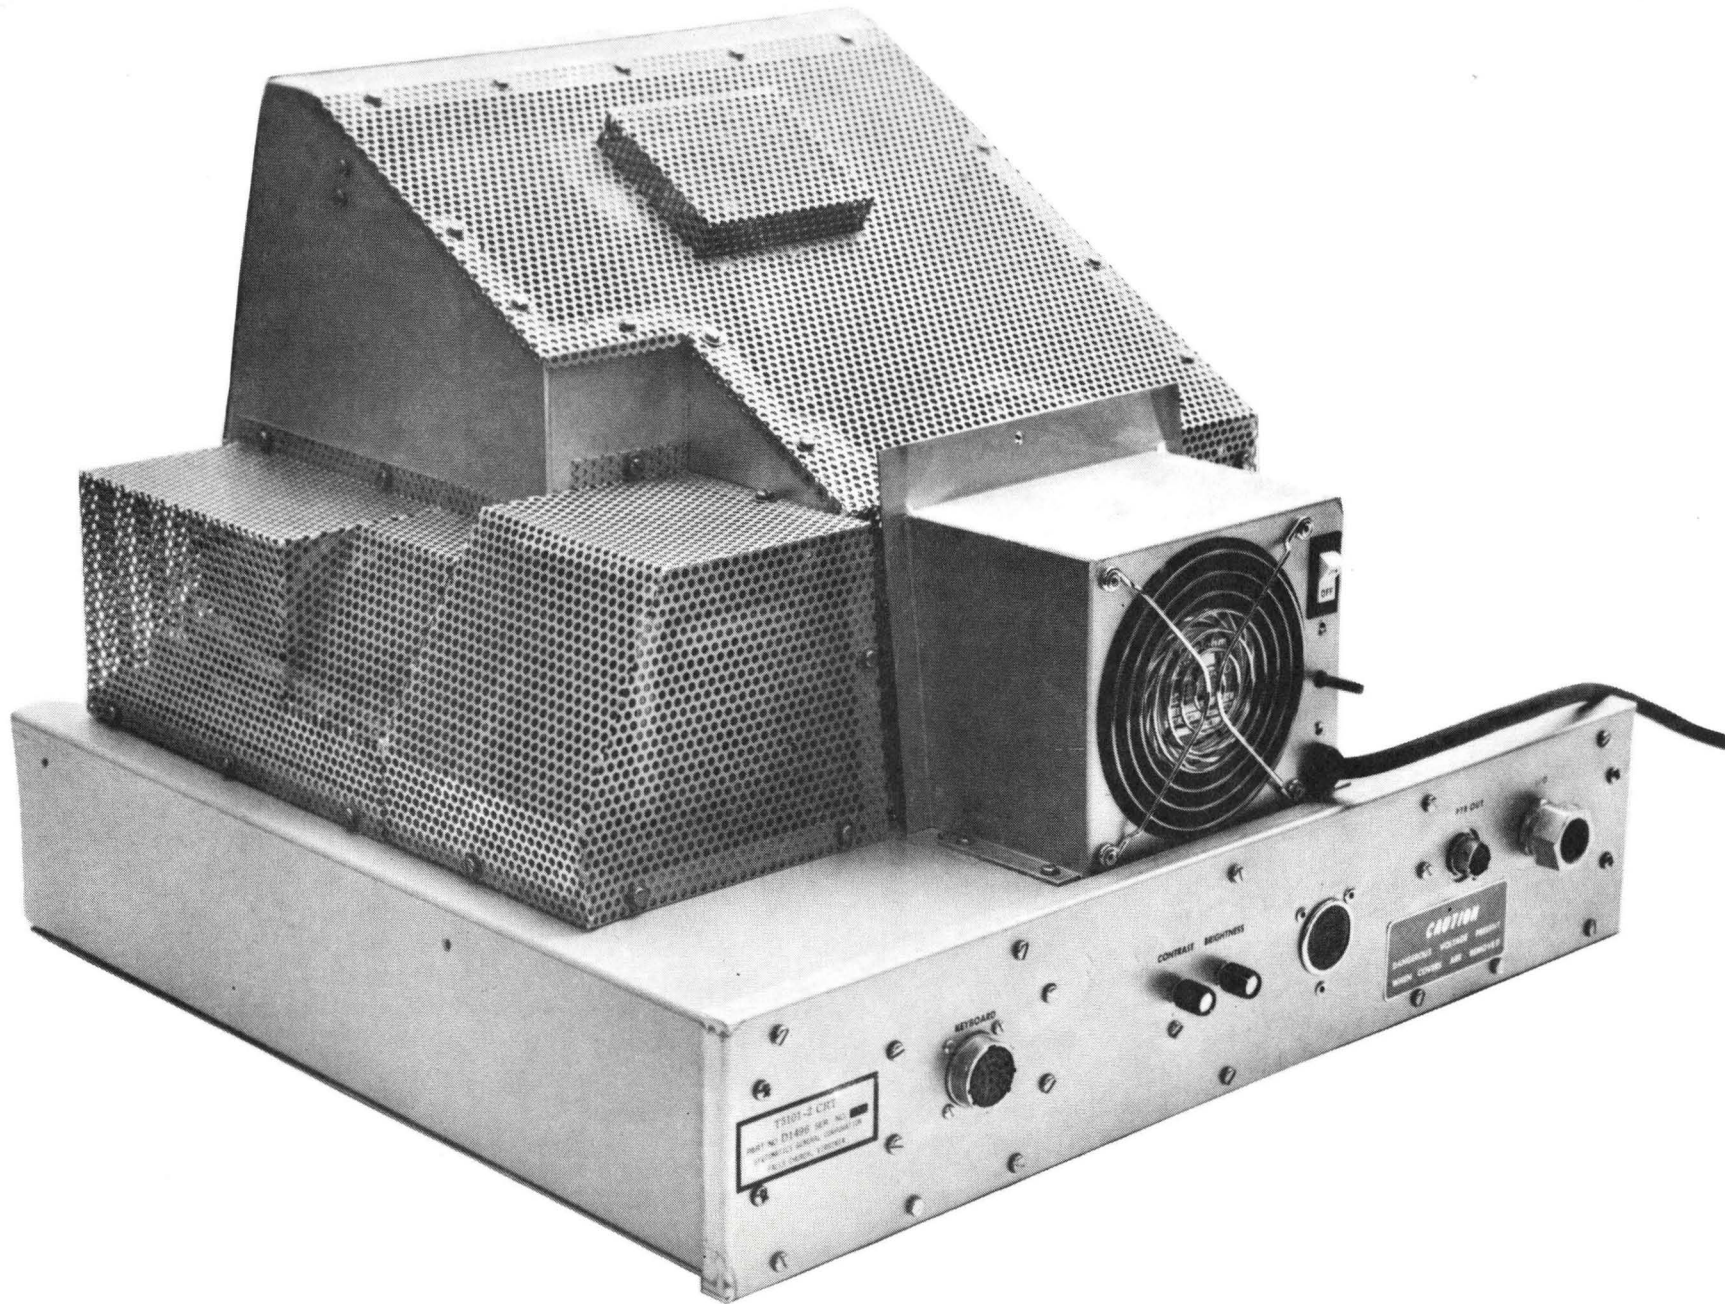
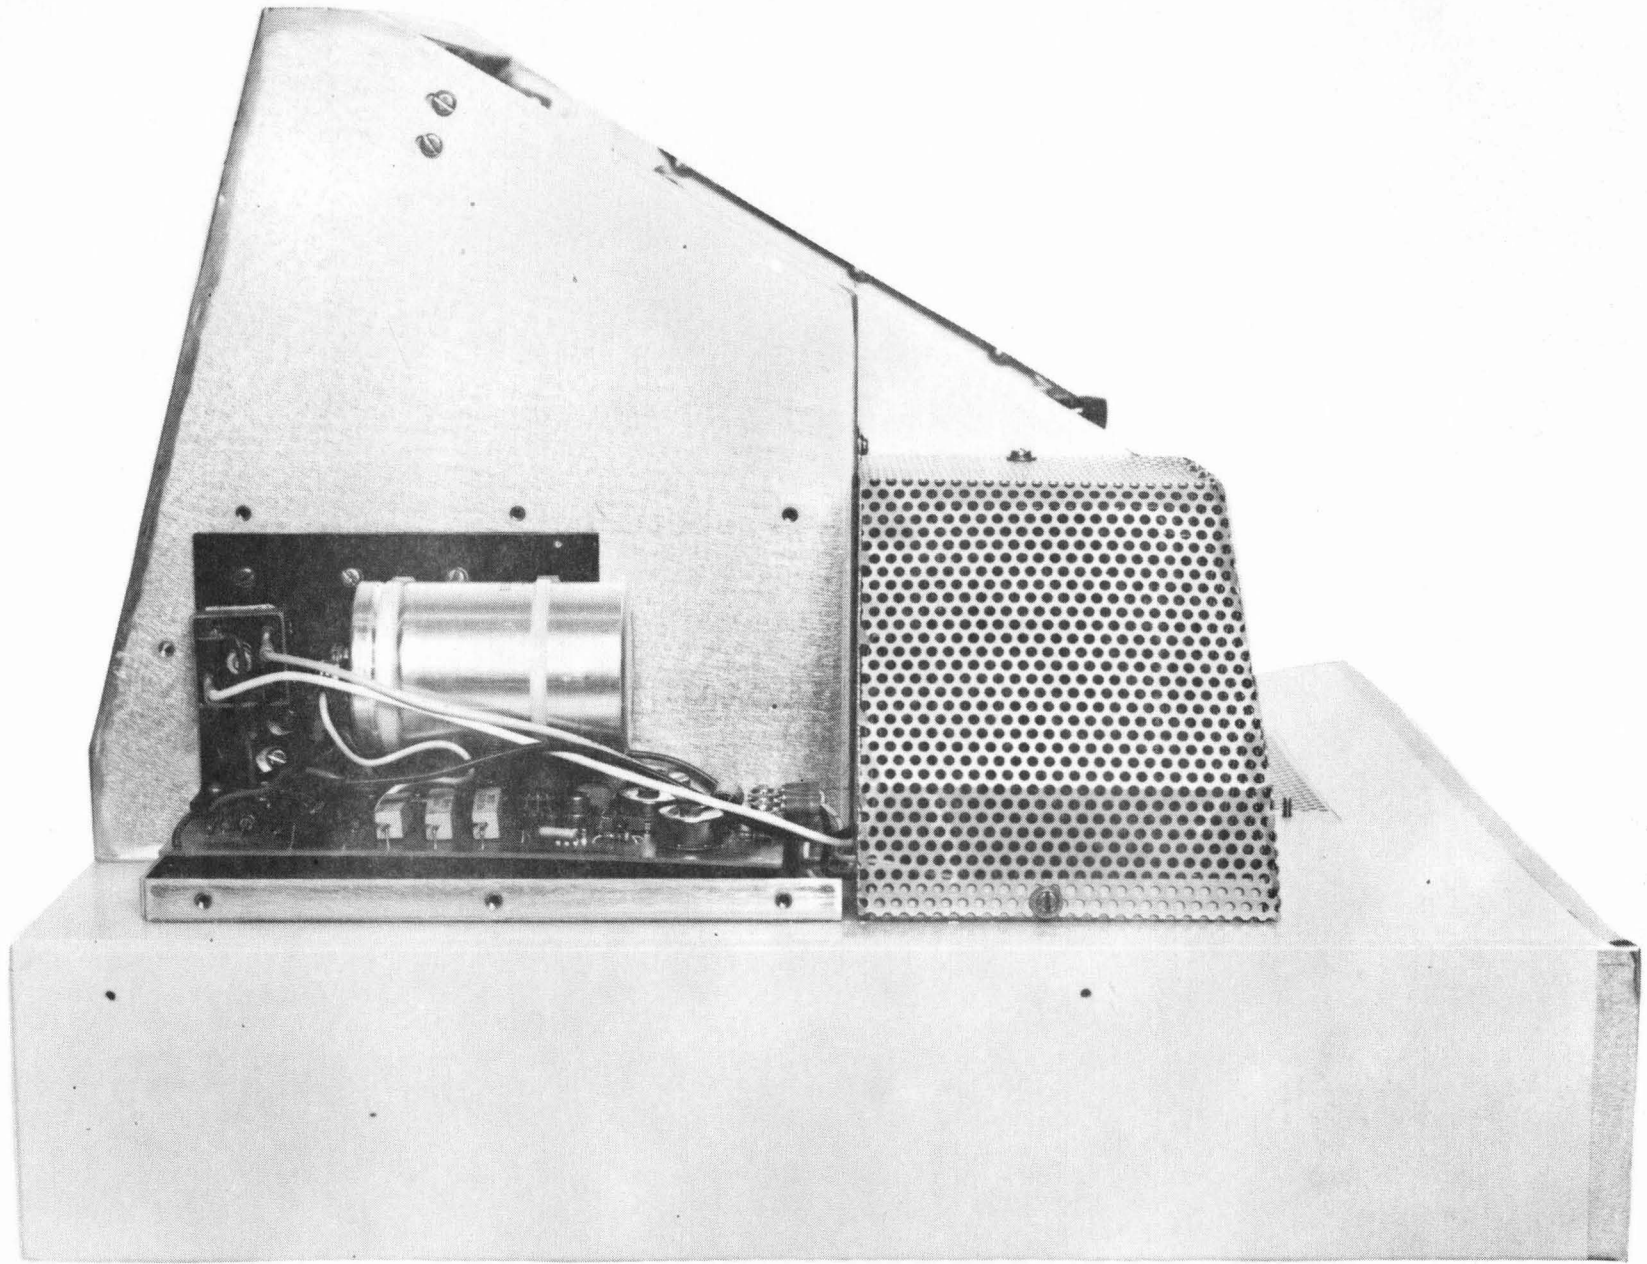

Figure 5-5. Logic Power Supply Shields
Figure 5-6. Logic Power Supply
Remove Logic Power Supply Shields (Figure 5-5). Remove Logic Supply Mounting Screws (Figure 5-6). Unplug two (2) transformer cables. Loosen screw and remove transformer ground. Loosen screws and remove output cables. Remove power supply.